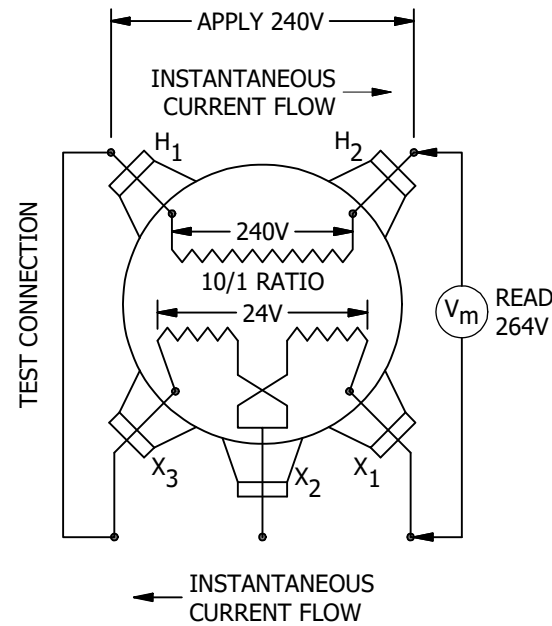

FIGURE 1
- III. THE POLARITY IS ADDITIVE IF THE VOLTAGE ACROSS THE OTHER TWO LEADS OF THE WINDINGS IN QUESTION IS GREATER THAN THAT OF THE HIGH-VOLTAGE WINDING ALONE (FIGURE 1).